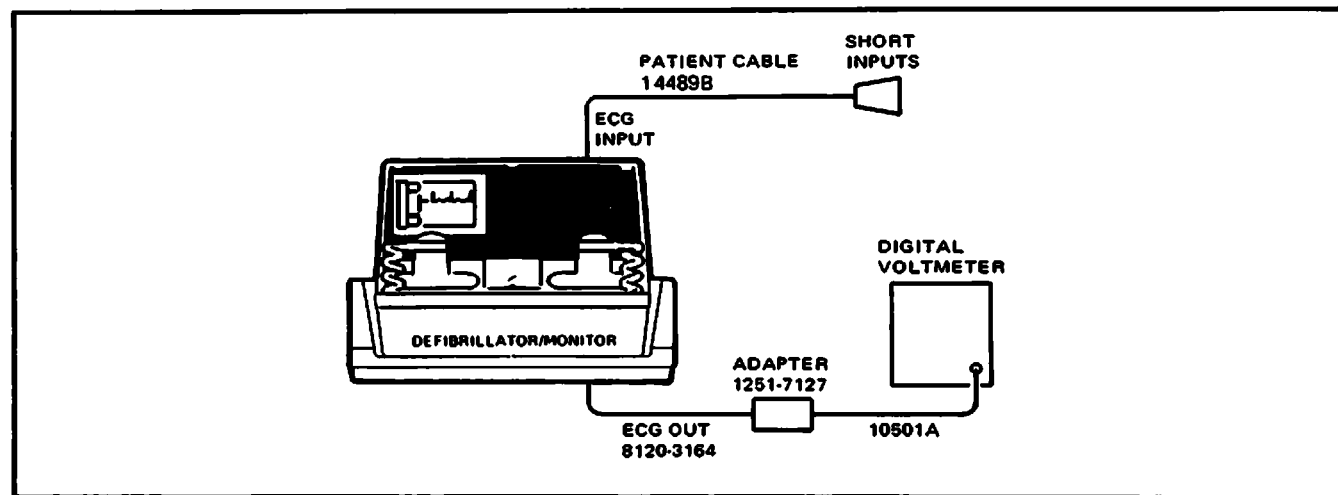

Figure 3-13. ECG Amplifier Baseline Offset (Leads).
1. Connect the test equipment as shown in Figure 3-13.